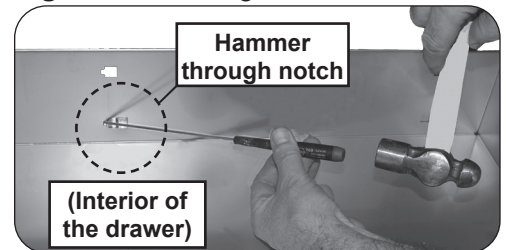

Fig. 5-3 Release tracking from drawer
2. From the interior of the drawer, use a flat head screwdriver and a hammer to tap the runners free (through the notches). See Fig. 5-3.